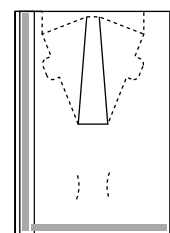

Fig. 2
4. Fold over the back section (B) and stick in to place (Fig. 2).